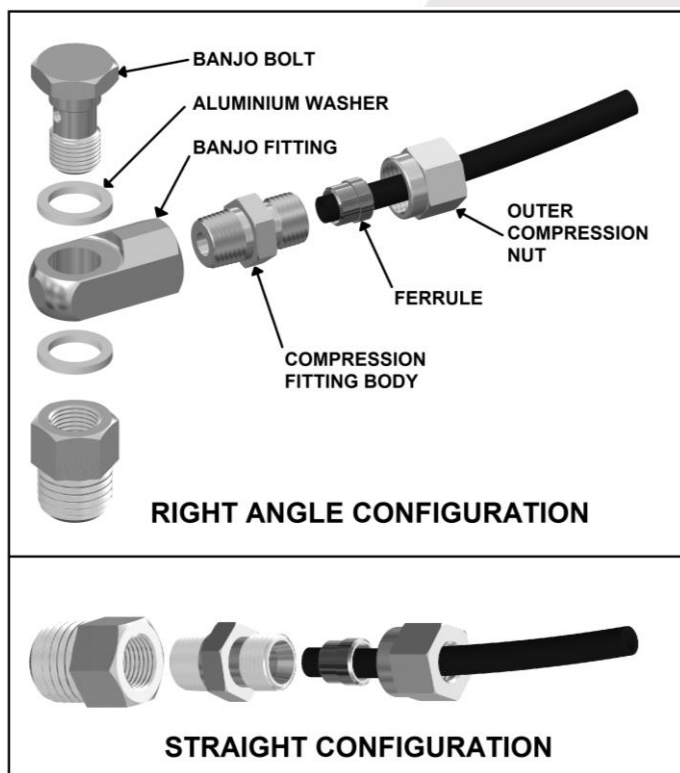

Figure 14.
- ☐ Assemble an aluminium washer onto the banjo bolt and insert through the banjo fitting. Assemble second aluminium washer and tighten into bulkhead fitting using a 14mm [9/16"] spanner. (Fig.14.)
- ☐ Insert the outer compression nut and ferrule over the air line. Ferrule should be orientated as per Fig.14.
NOTE : When right angle routing of the tube is not required, screw the compression fitting body straight into the bulkhead fitting body (Fig.14.).